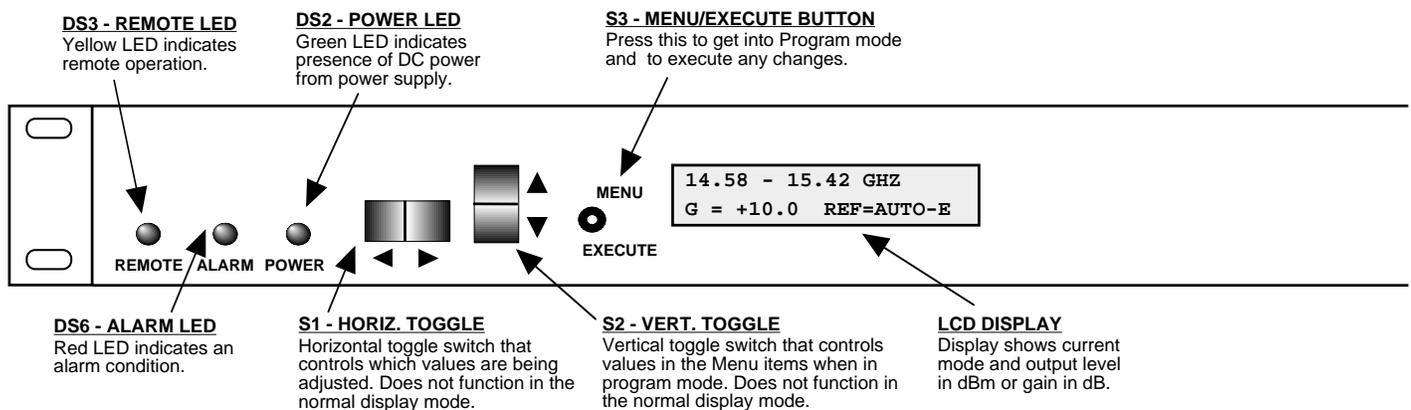

FIGURE 2.2 3116-145-1600 Front Panel Controls and Indicators
Figure 2.2 shows the front panel controls and indicators.
6. Be sure DS2 (green, DC Power) is on and DS6 (red, Alarm) is off (Figure 2.2).
Alarm indications appear on the LEDs (see Figure 2.2).